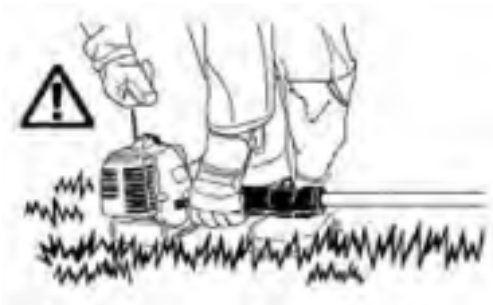

Fig.10
- 4) Slowly pull the recoil starter until you feel it engage and then pull it quickly. Return the recoil starter gently and slowly to the original position by hand. (fig.10)